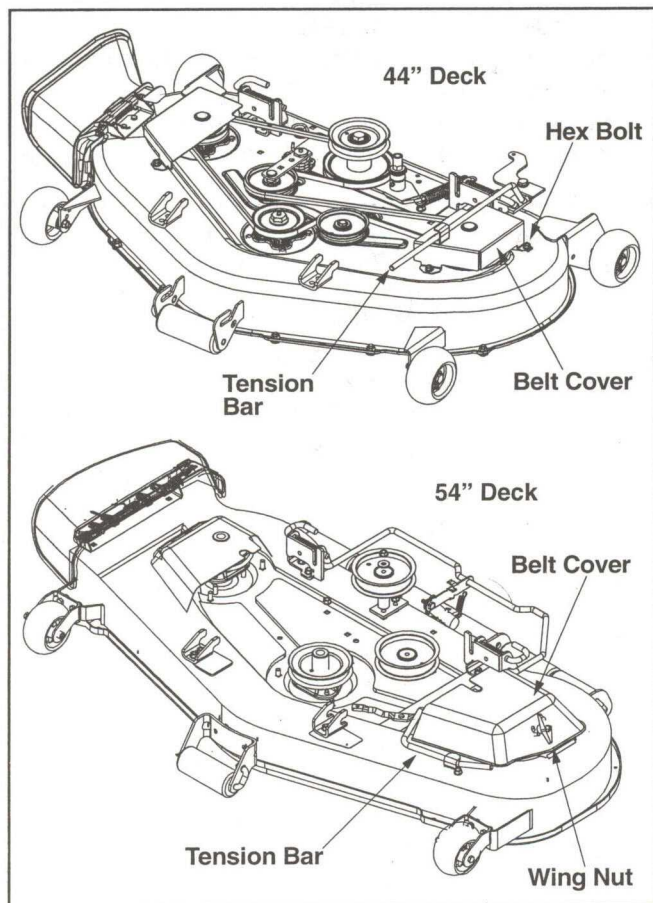

Figure 22
- Remove belt covers by removing the hex nuts or wing nuts that hold on the covers. See Figure 22.